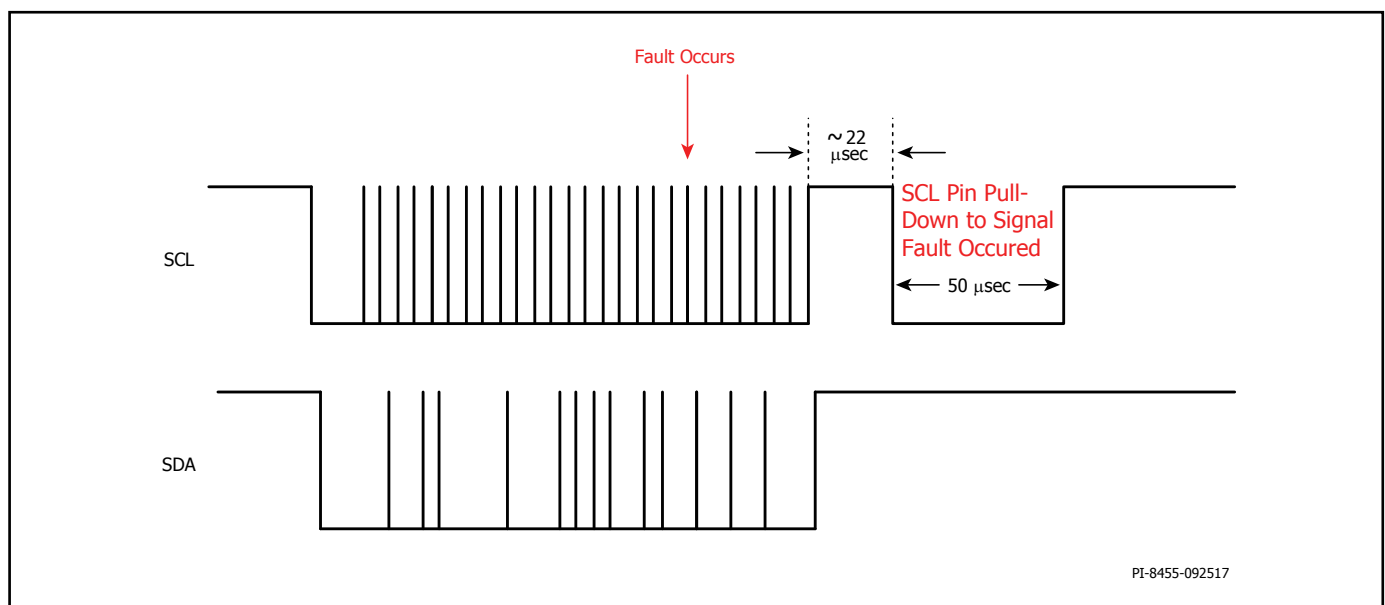

Figure 20. Interrupt Mask During Active I²C Transaction.
2. When the SCL pin is busy (active I²C transaction) (see Figure 20), the fault interrupt will wait for the I²C transaction to be completed, wait \sim 22 μ sec and then pull down the SCL line for 50 μ sec (minimum) then releases it back to HI State.